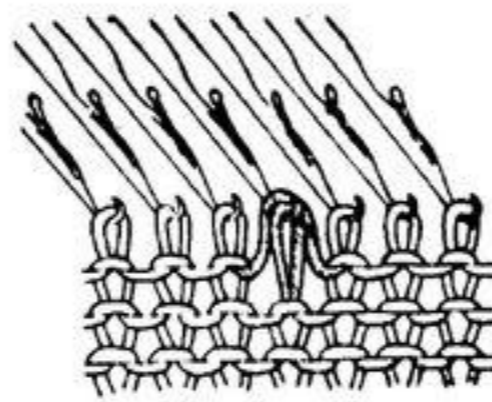

Fig. 48-2
2. Pick up the stitch together with the loose strand of yarn and place them in the needle hook. (Fig. 48-2)